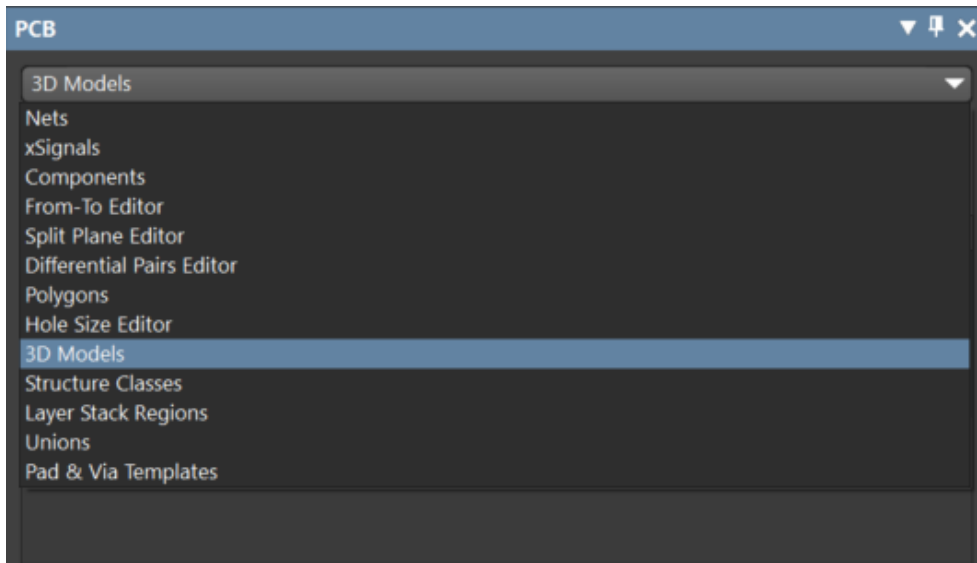

Figure 3. 3D Models from the PCB panel
15. From the drop-down list at the top the panel, select **3D Models** as shown in Figure 3.